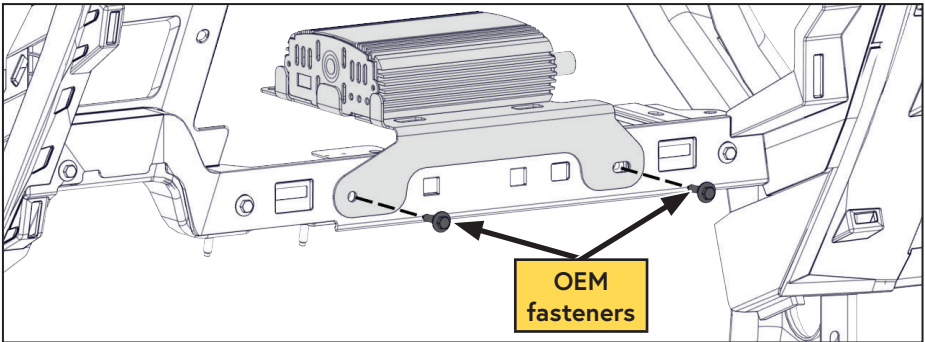

Figure 47 — Install inverter assembly
- ☐ Using the OEM fasteners, secure the inverter bracket behind the lower dashboard (Figure 47).